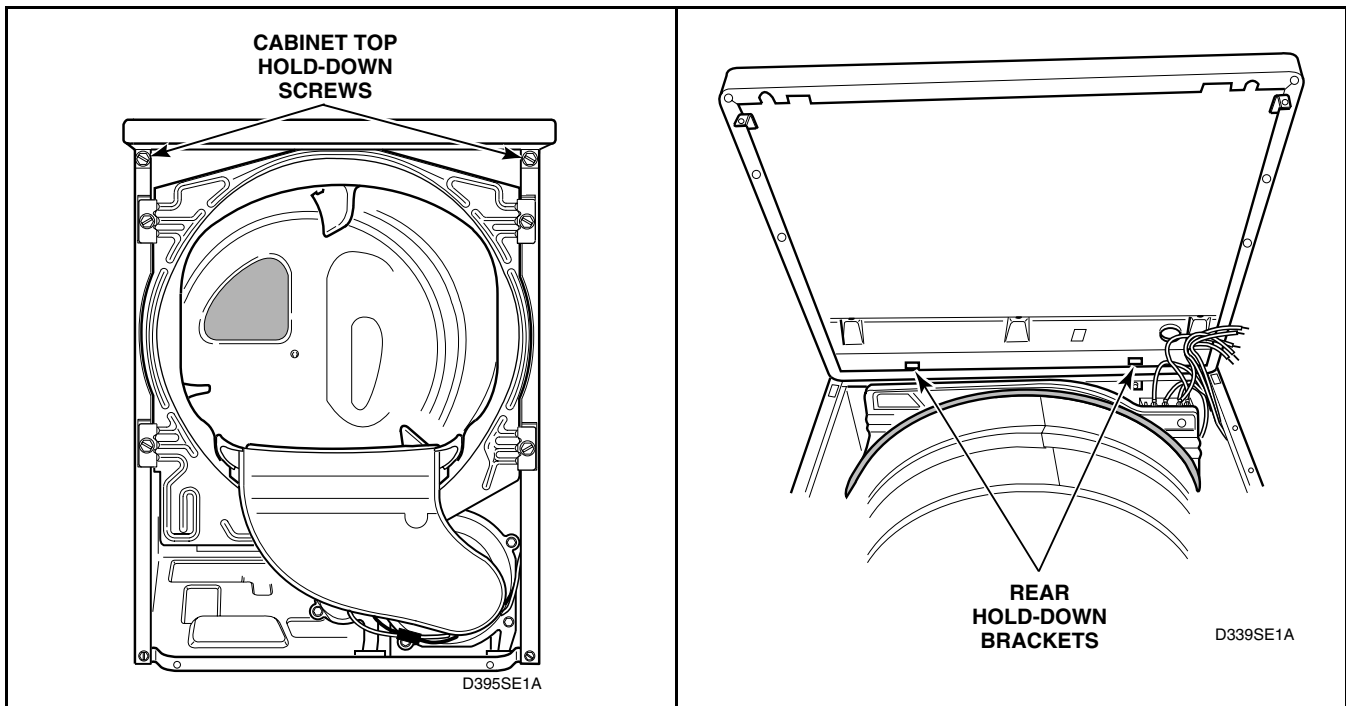

Figure 26
- Remove two cabinet top hold-down screws. Refer to *Figure 26*.
- Lift cabinet top to a vertical position by hinging it on the rear hold-down brackets. Refer to *Figure 26*.
- Carefully withdraw wire harness through hole in cabinet top and lift the top off the hold-down brackets. Refer to *Figure 26*.